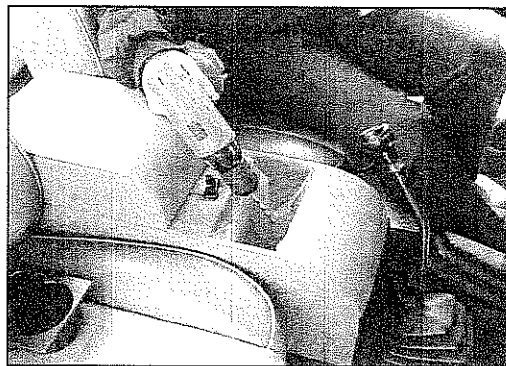

Figure 8
13. Drill one hole in the center and as far forward as possible through the bottom of the Console and the floor of the vehicle using a 3/16" drill bit (Figure 8).
14. Secure using (1) 14 X 1 3/4" Sheet Metal Screw provided.